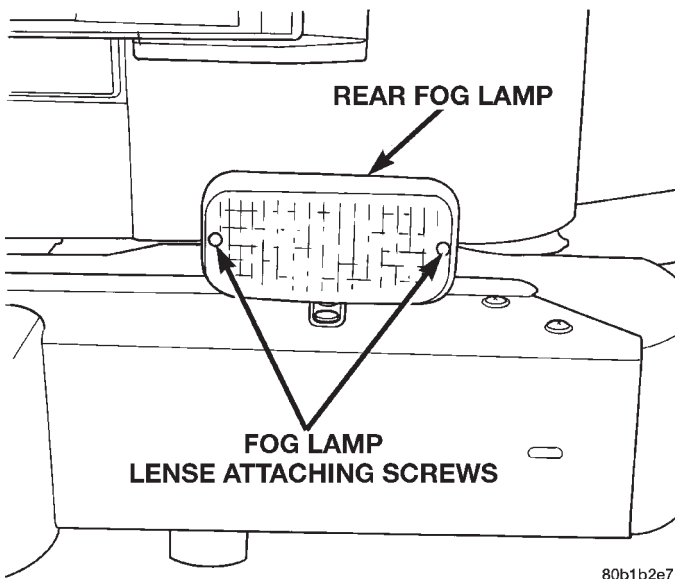

Fig. 10 REAR FOG LAMP LENS
- (1) Remove the rear fog lamp lens attaching screws and lens (Fig. 10).